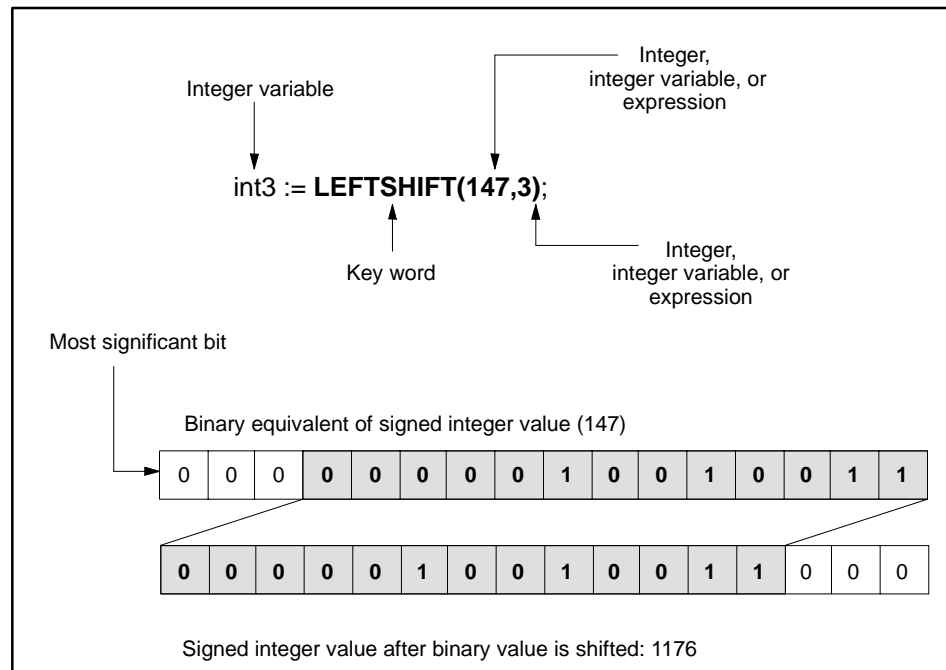

Figure 11-29 LEFTSHIFT Function
- The returned integer value is the decimal equivalent of the binary value that results from the shifting of the bits. For example, in Figure 11-29, the value of the variable, `int3`, is 1176.